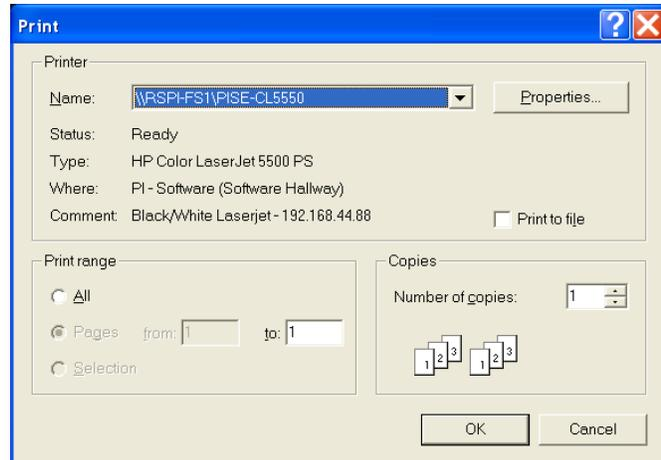

Figure 117. Print dialog
1. From the **File** menu, open the **Print** dialog (Figure 117).